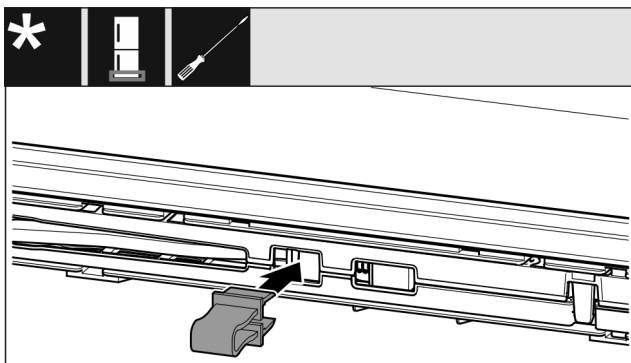

Fig. 14
- Engage the locking device in the opening Fig. 14 ().